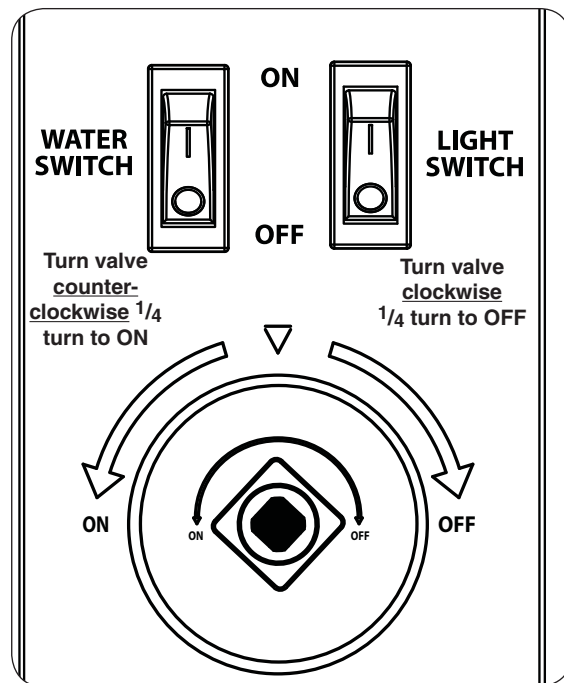

Fig. 33-2 Control box detail
4. **Once the match is burning and in position**, turn the key valve counter-clockwise a $\frac{1}{4}$ turn to the **ON** position (see Fig. 33-2). Your burner should light.
To extinguish your gas burner, turn the key valve clockwise a $\frac{1}{4}$ turn to the **OFF** position (see Fig. 33-2). Be sure the key valve is turned fully off to avoid any gas leakage.
2. Flip the water switch (door side of firefall) to the ON (I) position (see Fig. 33-2).
1. Flip the light switch (door side of firefall) to the ON (I) position (see Fig. 33-2).